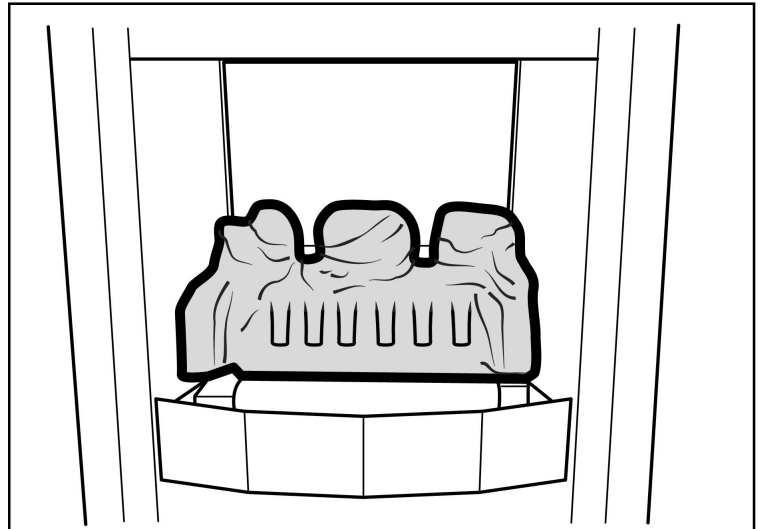

Figure 22. Rear Base Coal Position
1. Place the rear base coal in the firebox. It should rest on the ledges at the rear sides of the burner unit. When located gently move the rear base coal so that it is as far forward as possible. The amount of movement will be negligible (See figure 22).